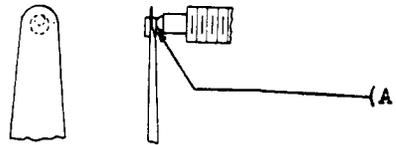

Fig. 5 - Contact Alignment
2.04 Contact Alignment: Fig. 5(A) - Contacts shall line up so that the point of contact falls wholly within the boundary of the opposing contact.